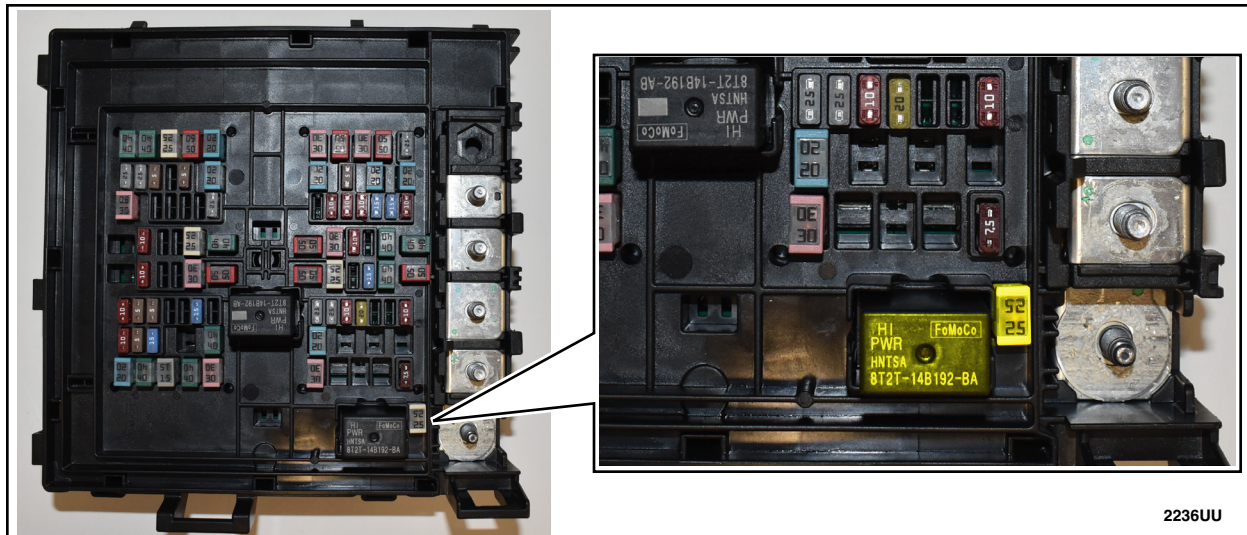

FIGURE 52
61. Remove relay and 25 amp fuse from BJB as identified in Figure 52.